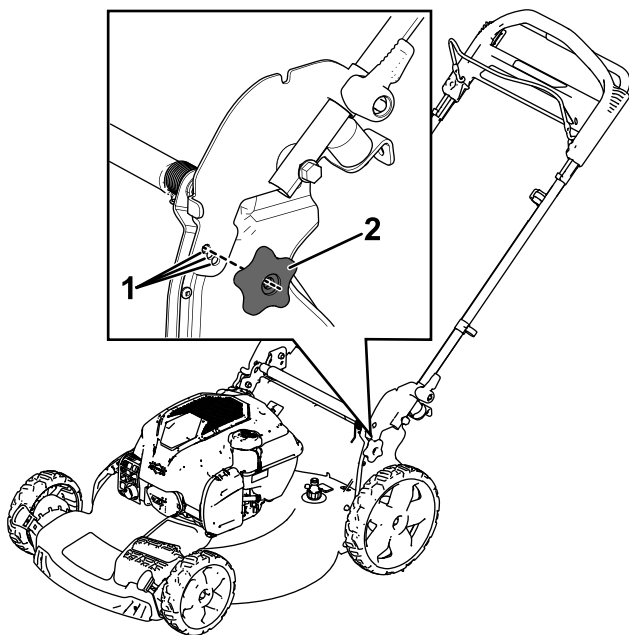

Figure 11
You can raise or lower the handle in 1 of 3 positions that is more comfortable for you (Figure 11).
1. Remove both handle bolts and knobs (Figure 11).